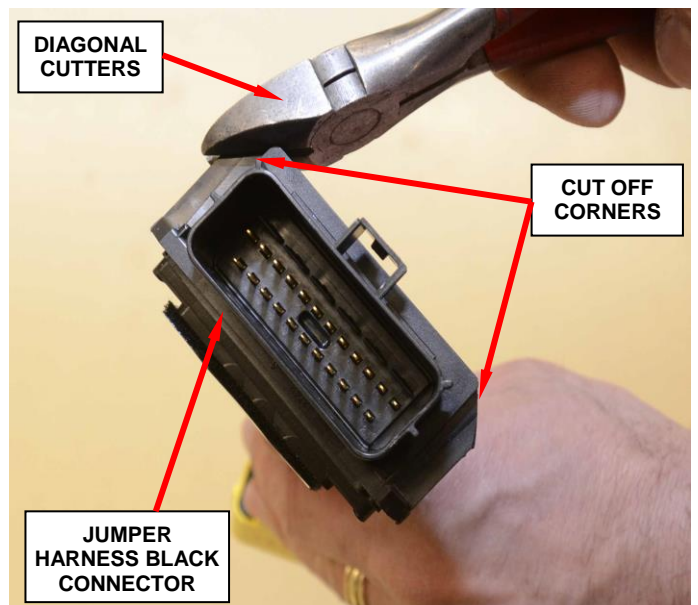

Figure 8 – Trim Corners of Connector
23. Using diagonal cutters, trim the corners off the black connector on the new jumper harness (Figure 8).